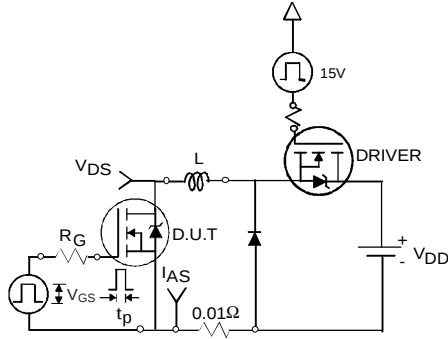

Fig 12a. Unclamped Inductive Test Circuit
3. Equation below based on circuit and waveforms shown in Figures 12a, 12b.
- ② Limited by T_{Jmax} , starting $T_J = 25^\circ\text{C}$, $L = 0.18\text{mH}$, $R_G = 25\Omega$, $I_{AS} = 18\text{A}$, $V_{GS} = 10\text{V}$. Part not recommended for use above this value.
- ③ Pulse width $\leq 1.0\text{ms}$; duty cycle $\leq 2\%$.
- ④ C_{oss} eff. is a fixed capacitance that gives the same charging time as C_{oss} while V_{DS} is rising from 0 to 80% V_{DSS} .
- ⑤ Limited by T_{Jmax} , see Fig.12a, 12b, 15, 16 for typical repetitive avalanche performance.
- ⑥ This value determined from sample failure population. 100% tested to this value in production.
- ⑦ When mounted on 1" square PCB (FR-4 or G-10 Material). For recommended footprint and soldering techniques refer to application note #AN-994